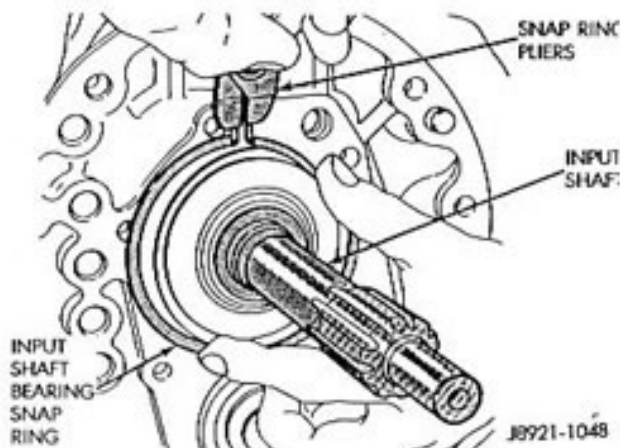

Fig. 18 Removing Input Shaft Bearing Snap Ring
- (3) Remove the input shaft bearing snap ring (Fig. 18).